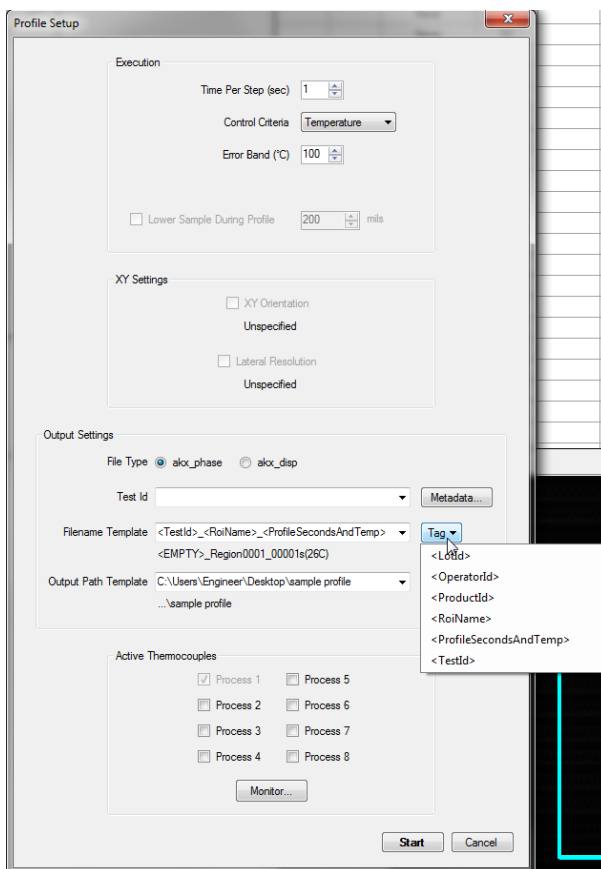

Figure 2.20 Profile Setup Dialog
At the very bottom of this window the current Output Path is listed. This is the directory where all the displayed results are stored. It can be changed at the start of a profile in the Profile Setup Window (see **Figure 2.20**).
This menu contains two options: Manual Mode and Thermocouple Monitor. Manual mode allows manual temperature control and data acquisition, and is detailed in **Section 2.6**. Thermocouple Monitor allows the user to quickly see all thermocouple temperatures for setup purposes. This tool can also be opened from the Monitor... button in the Profile Setup dialog (see **Figure 2.20**).
The Profile Setup dialog is accessed by right-clicking on either the Profile Graph (**Figure 2.2**) or Table Panes (**Figure 2.5**) and choosing **Start**. This dialog is shown in **Figure 2.20**, and with it the user can set up the parameters for a profile run. This dialog has four major sections: Execution, XY Settings, Output Settings, and Active Thermocouples.
- **Output Path Template** – Allows the user to choose a folder in which to save the profile results. The user can either select an existing folder with the '...' button or use a similar metadata tagging system to the Filename Template to create new folders tagged with any of the metadata labels shown in **Figure 2.20**. The arrow at the end of the template entry box allows the user to select from a list of recent file paths. The current full file path is listed below the template entry box.
<LotId>	User defined in the Metadata settings dialog (Figure 2.20)
<TestId>	User defined in the Metadata settings dialog (Figure 2.20)
<OperatorId>	User defined in the Metadata settings dialog (Figure 2.20)
<ProductId>	User defined in the Metadata settings dialog (Figure 2.20)